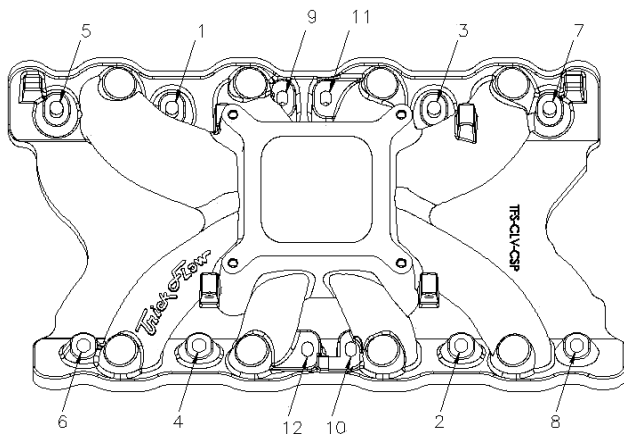

Figure 1
4. Torque them to 12 ft.-lbs., 16 ft.-lbs., then 22 ft.-lbs. using the sequence shown in Figure 1. You must repeat the sequence until all the bolts are torqued to specification. The manifold will work its way into the proper position during this process.